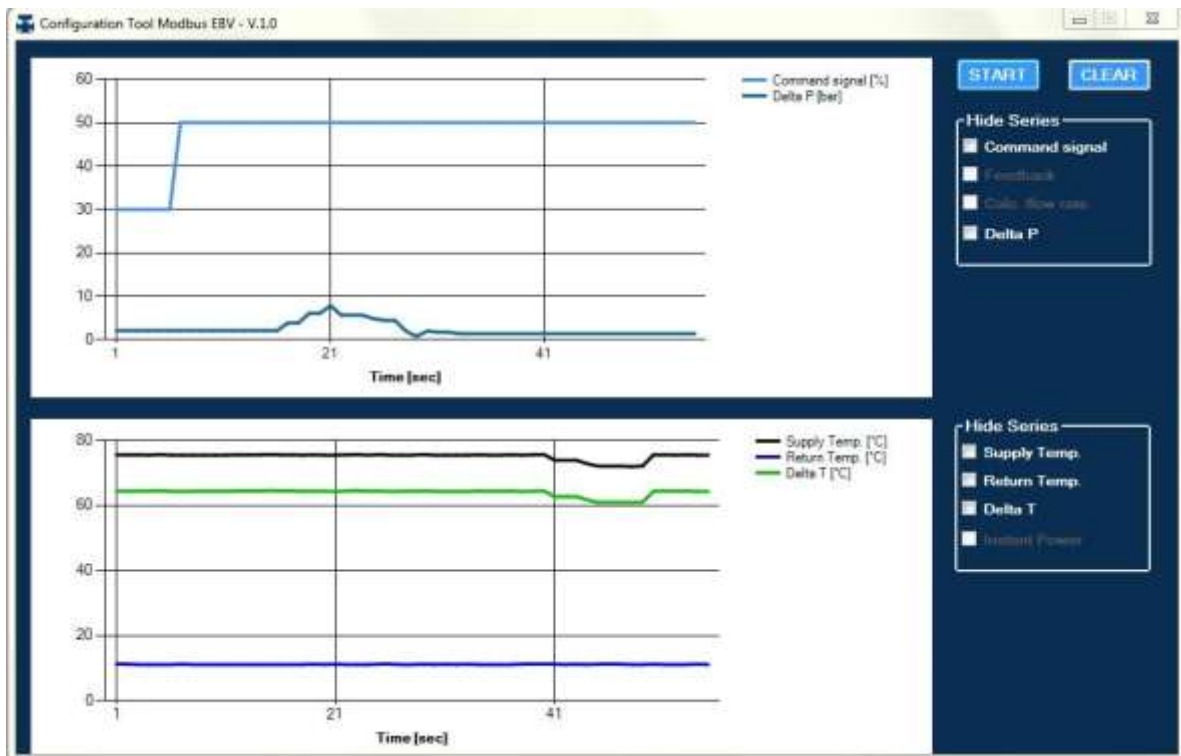

Figure 10
- **CHARTS:** by checking the items listed in this section it is possible to view the graphs of the desired variables. The graphs are grouped into 2 types: the balancing ones (command signal, feedback, calculated flow rate, Delta P) and the energy ones (supply temperature, return temperature, delta T and instant power). The latter are only enabled if the system has 2 temperature sensors, otherwise they are disabled (gray background) and cannot be selected. Pressing the "CHARTS" button a window will appear with the previously selected charts. The 2 types of variables are represented on 2 different graphic areas (see figure 10).